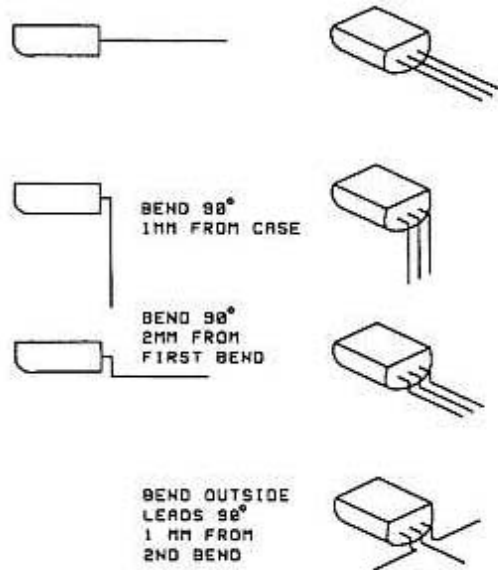

FIGURE 8
18. Prepare the NJM78L06A 6 V AVR for installation as shown in figure 8. The leads to this device are vary soft and can break when bent too often. Make each bend only once.